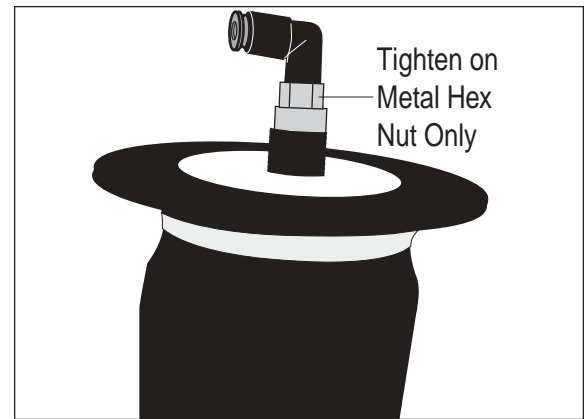

Figure 1
1. Install 90 degree air swivel fitting (D) to the top of the air spring. Use a $\frac{7}{16}$ " open end wrench being careful to tighten on the metal hex nut only. Tighten 1 and $\frac{1}{2}$ turns (Figure 1). Do not over tighten.